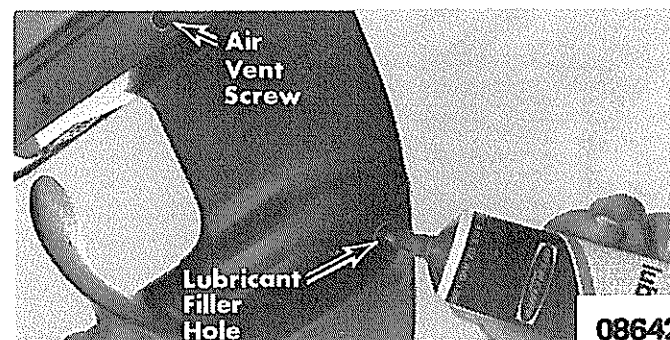

Figure 18. Lower Unit Lubrication
1. Remove lubricant filler plug and washer from gear housing. (Figure 18)
1. Remove air vent screw (Figure 18) and plastic grease fitting cap on clamp/swivel bracket. (Figure 1)
3. Lubricate drive unit and other points, as instructed previously. (Figure 18)